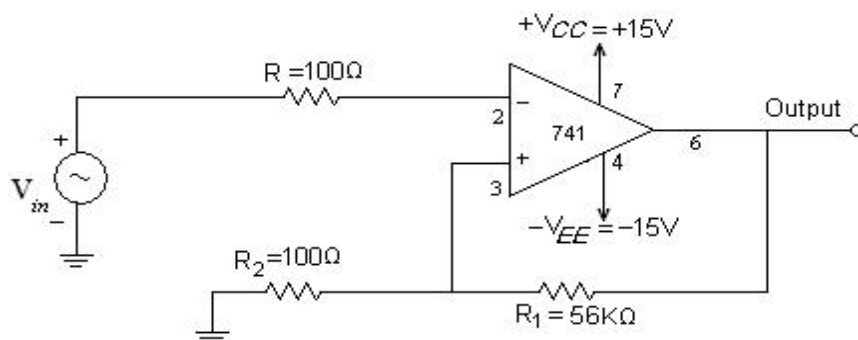

Fig.12.1 :Schmitt trigger circuit using IC 741
1. Connect the circuit as shown in Fig 12.1.